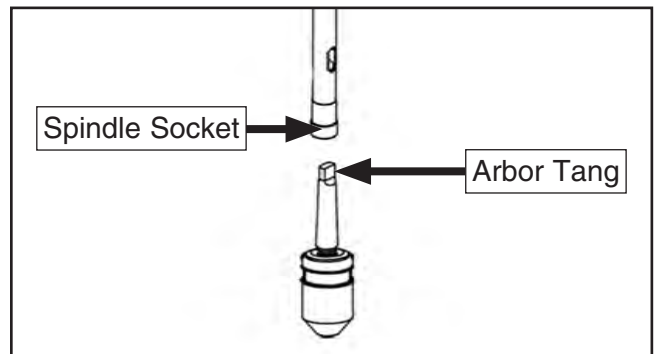

Figure 23. Spindle, arbor, and chuck.
3. Slide arbor into spindle socket while slowly rotating chuck to line up tang on arbor with slot in socket (see **Figure 23**).